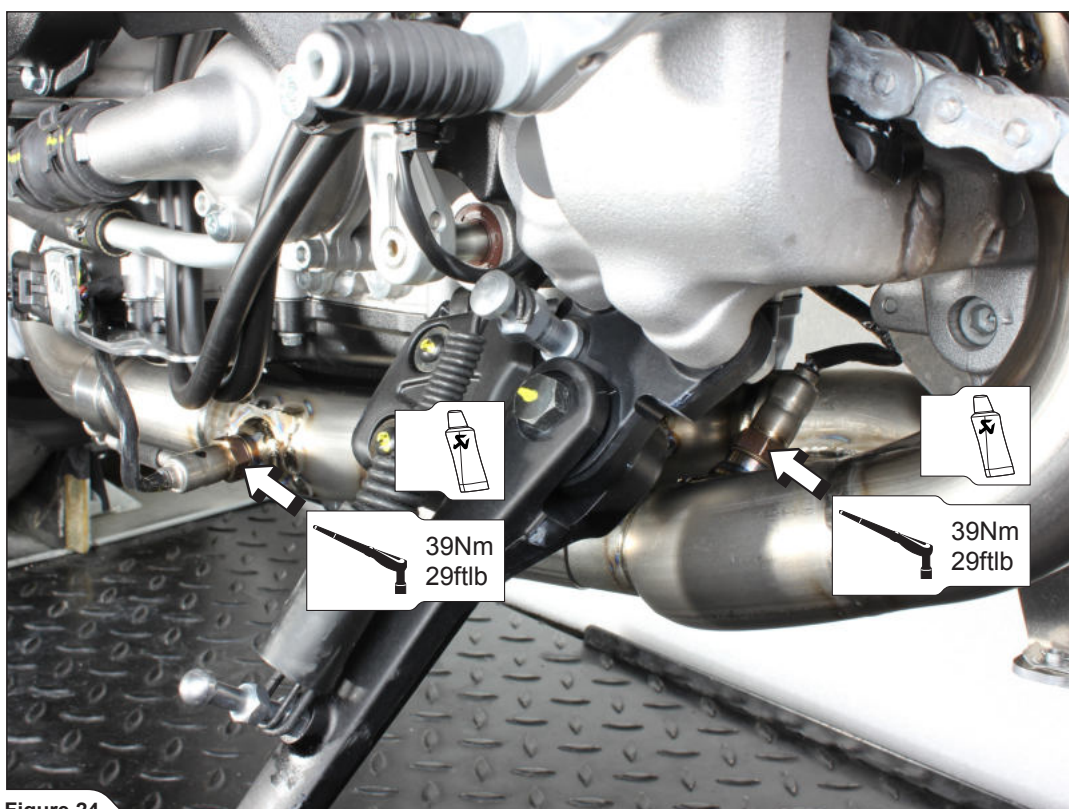

Figure 24
8. Assemble the collector onto the headers and install the lambda sensors into the collector (Figure 24).